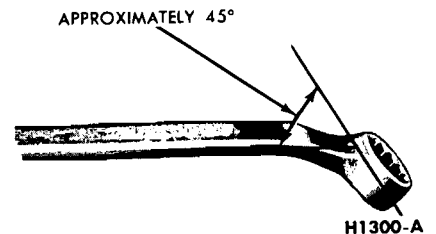

FIG. 9—Wrench for Bleeding Brake Hydraulic System
2. To bleed the secondary (rear) brake system, position a suitable 3/8 inch box wrench (Fig. 9) on the bleeder fitting on the brake wheel cylinder. Attach a rubber drain tube to the bleeder fitting. The end of the tube should fit snugly around the bleeder fitting.
4. If the rear wheel cylinders, secondary brake system, are to be bled, position a 3/8 inch box wrench (Fig. 9) on the bleeder fitting on the right rear brake wheel cylinder. Attach a bleeder tube to the bleeder fitting. **The end of the tube should fit snugly around the bleeder fitting.**